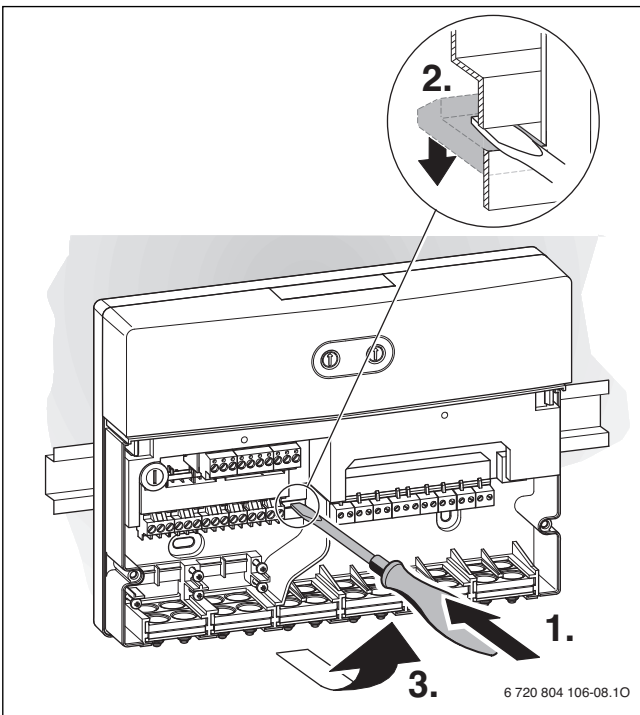

Fig. 8 Removal from DIN rail
► Observe fig. 8 when removing the component from the DIN rail.